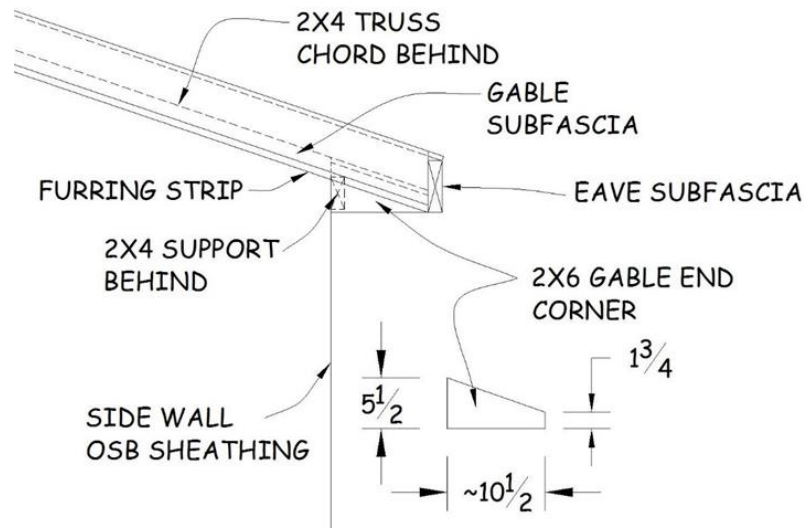

Figure 22-10. Gable End Corner Installation.
2. At each corner of the shed, measure the distance from the inside of the eave end sub-fascia to the shed wall. Mark a scrap 2x6 to this length with one end of the length 5½" high and the other end 1¾" high (see Figure 22-10). Cut the angle on the 2x6 first (for safety reasons) then cut the 2x6 to the measured length for the gable end corner. Cut a scrap piece of 2x4 8-12" long for use as a gable end corner support block.